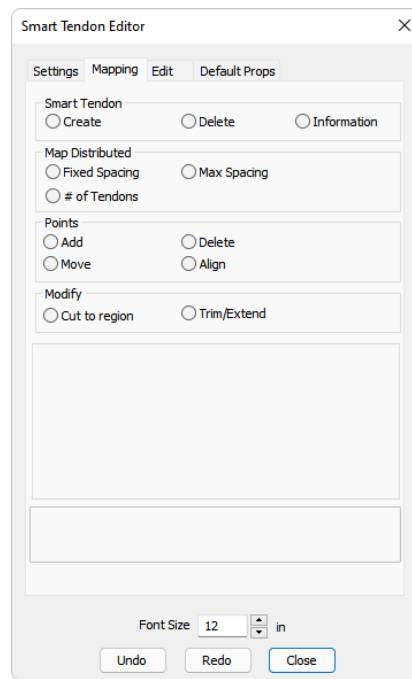

FIGURE 9-43
- Navigate to the **Mapping** tab as shown in **FIGURE 9-43**.